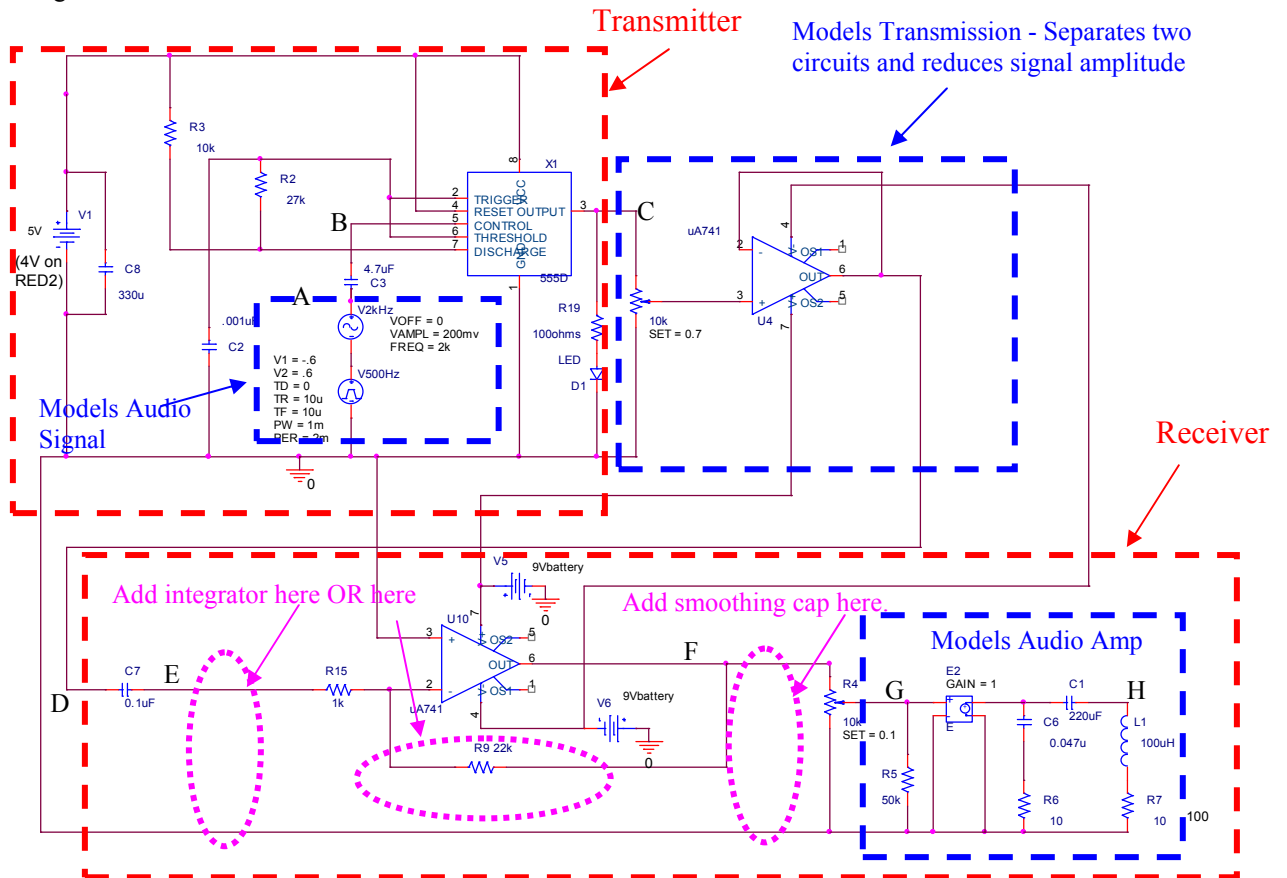
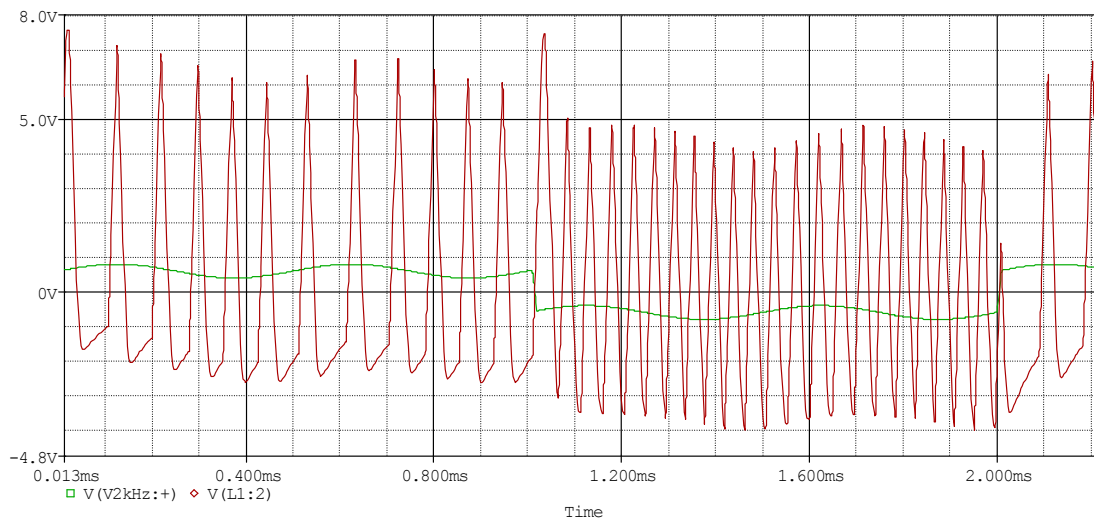
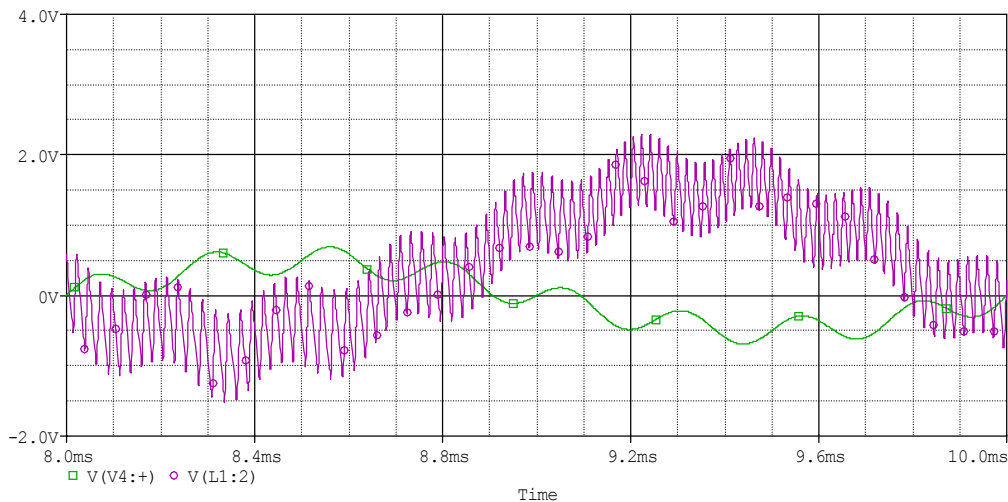
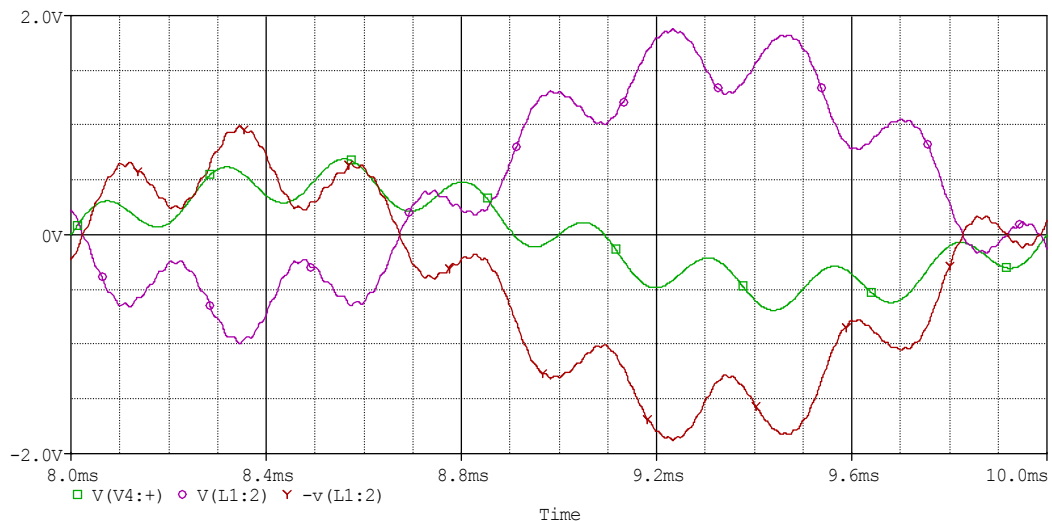

Figure 6.
Figure 7. Input and output traces.
Figure 9.
Figure 12.
The model: Figure 6 shows the different pieces of the model. An audio source is approximated using a small sine wave at 2kHz and a square wave at 500Hz. This helps demonstrate how the circuit works. You may want to run the simulation with only one source on at a time. The transmitter circuit is separated from the receiver circuit with a buffer. (In the real circuit that you build, this separation will be the air through which the light pulses are transmitted. In the simulation, we don't have light or air, but we can at least isolate the two circuits electronically with a buffer.) There is also a pot that creates the difference in amplitude between the pulses generated by the transmitter and the pulses picked up by the phototransistor. The audio amplifier in the receiver is modeled with a different amplifier (E2) than the 386 used in the real circuit. (PSpice does not have a 386). In order to keep the amplitude of the output at the same order of magnitude as the input, the gain on this amplifier (1) is 1/20 of the gain on the 386 without the optional capacitor. The picture also shows the locations you will use to add the circuit elements you need for your final design.
Run the simulation: Start by running the simulation provided. Remember that the initial design should give you a poor quality reproduction of your input signal. Therefore, you should expect the model of the initial design to give you a poor quality reconstruction of the signal at the output. The input (point A) and output (point H) of the simulation should look something like Figure 7. The figure below shows 2ms of the traces. The input trace has one cycle of the lower frequency square wave (at 500Hz) with four cycles of the higher frequency wave (at 2kHz) superimposed on it. As you can see, the output shows some of the features of the input, but it consists mainly of the high frequency samples taken by the 555 timer oscillating between about minus 5V and plus 5V.
Determine your sampling frequency: The sampling frequency in the PSpice model is representative of a good sampling frequency for your circuit. It is hard to determine exactly what this frequency is by looking at the pulses because the frequency of the pulses changes with the input signal. You can get a reasonable average by averaging over several samples in Figure 7 or by calculating the frequency of the 555 timer circuit using the astable mode equations and the values of the components in the R-R-C combination (10k-27k-0.001u). Be sure that the PSpice frequency and the actual sampling frequency of your transmitter circuit match reasonably well when you take your data and design your integrator. In the actual circuit, you can match the frequencies either by turning the 100K pot in the actual circuit, replacing the 100K pot in the circuit with a 10k resistor, or by changing resistor R3 in the PSpice model.
What the integrator should do: When you integrate the modulated signal, you take advantage of the fact that the pulses vary in frequency. Your pulses (at point E) are square waves centered around zero. When you are on the positive part of the pulse, the signal (the integration of a positive constant) ramps up. When you are on the negative part of the pulse, the signal (the integration of a negative constant) ramps down. Since the pulses vary in frequency (and width) with the signal, adding this integration will bring out the variation in the amplitude of the original signal. Figure 9 shows the input (point A) and the output (point H) of the PSpice model with an appropriate integrator added. Note that you can still see the sampling pulses, but the output (which is inverted) captures the overall shape of the wave much better. You can see both the shape of the lower frequency and the higher frequency of the input. (These plots are for a pair of sine wave inputs, one at 500Hz and one at 4kHz. You can choose to do these frequencies or use the sine wave and square wave signals as shown in Figure 6.)
Testing your choice with PSpice: Once you have chosen an integrator and your target component values, try adding the integrator to the PSpice model. Run the simulation and see if it works. Note that you will probably have to increase the gain of E2 by a factor of 10 (to 10). If you have to do this in PSpice, do not forget to also add the 10 μ F capacitor between pins 1 and 8 of the 386 amplifier in your actual protoboard circuit. Try adjusting the value of the capacitor until you get a good integration with adequate final amplitude. Remember, you don't need to worry about the pulses from the 555 timer sampling. You just want to get a good reconstruction of the input with the sampling pulses superimposed on it as shown in Figure 9. [If you need to, you can use the inverting amplifier to change the gain as well.]
What the smoothing capacitor should do: Recall that when you added a smoothing capacitor to the output of a rectifier, the bumps from the rectified signal were smoothed over and the output was much more even. You can apply this concept to the signal in this circuit as well. If we add a smoothing capacitor of the correct size between point F and ground, we should be able to smooth out the pulses caused by the sampling and come up with an even closer reconstruction of the original audio wave. Figure 12 shows the result of adding a smoothing capacitor to the integrated signal. It shows the original input (at point A), the output of the circuit (at point H), and the inversion of the output (at point H). Note that the original input frequencies have been preserved, but the pulses (that are shown in Figure 9) have been largely eliminated. Aside from a change in amplitude, a slight time delay, and some inconsistencies in DC offset (caused by the integration), the input and the output are now very much the same. You can see that this is a substantial improvement over the initial data shown in Figure 7.